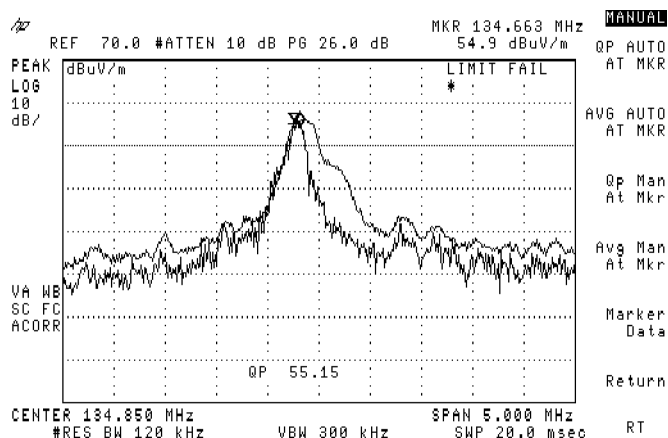

Figure 3-63. Signal after Quasi-Peak Measurement
16. Read the amplitude level at the bottom of the display screen. In our example, the display shows 55.15 dB μ V/m. See Figure 3-63.